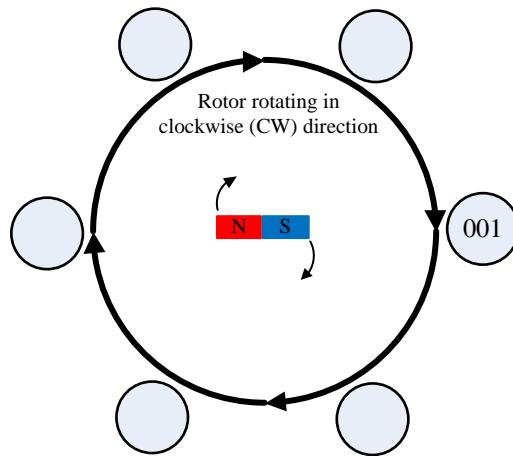

Figure 5. States of Hall sensor signals (H1 H2 H3) for CW direction.
- Capture the waveforms of Hall sensor signals and complete the diagram in Figure 5.